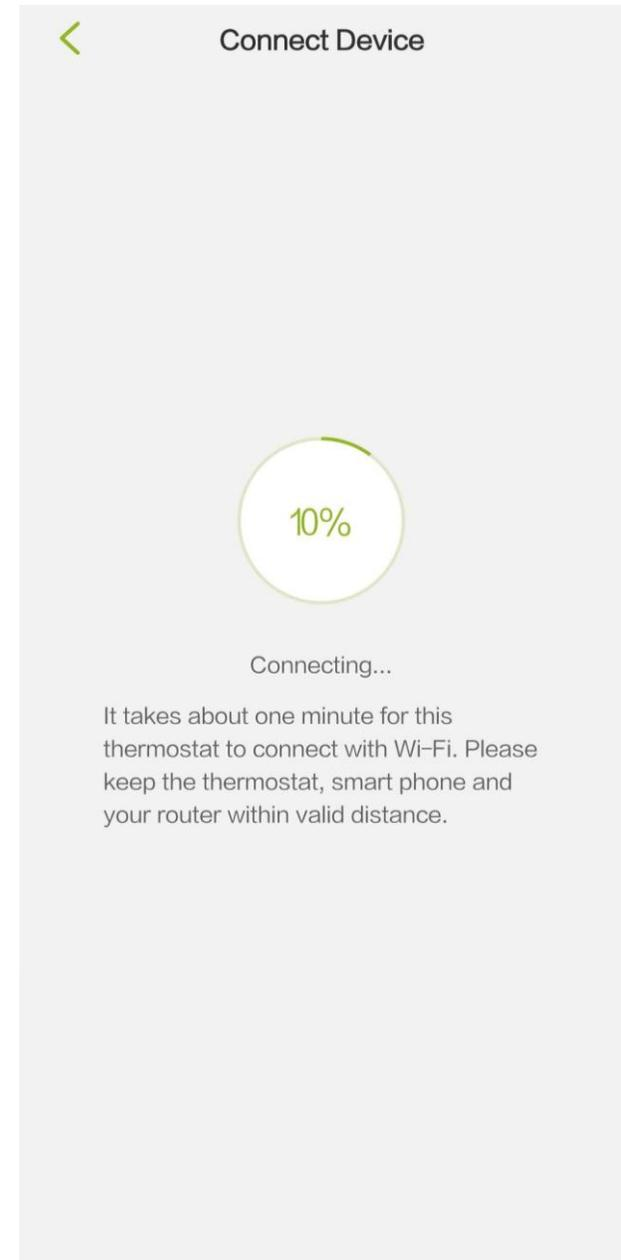

Fig. 3
- Connect your smart phone to Wi-Fi (Select **2.4 GHz Wi-Fi** and input password), it takes 30 to 60 seconds to complete (see Fig.3). Touch **“Help”** to trouble shoot if you fail to make it online.